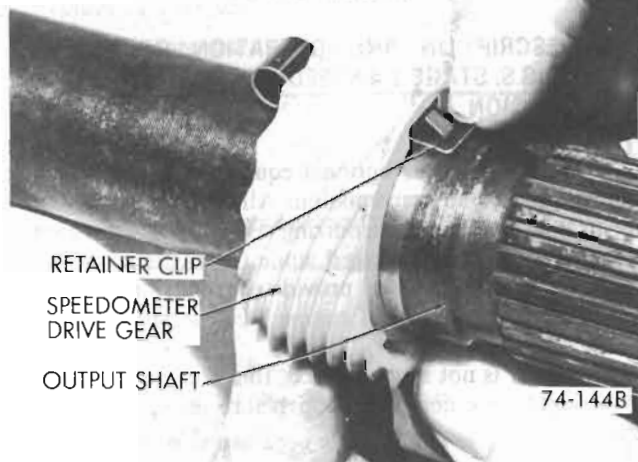

Figure 72-42 - Removing Speedometer Drive Gear
7. Remove speedometer drive gear. Depress retainer clip, then slide speedometer gear off output shaft. See Figure 72-42.